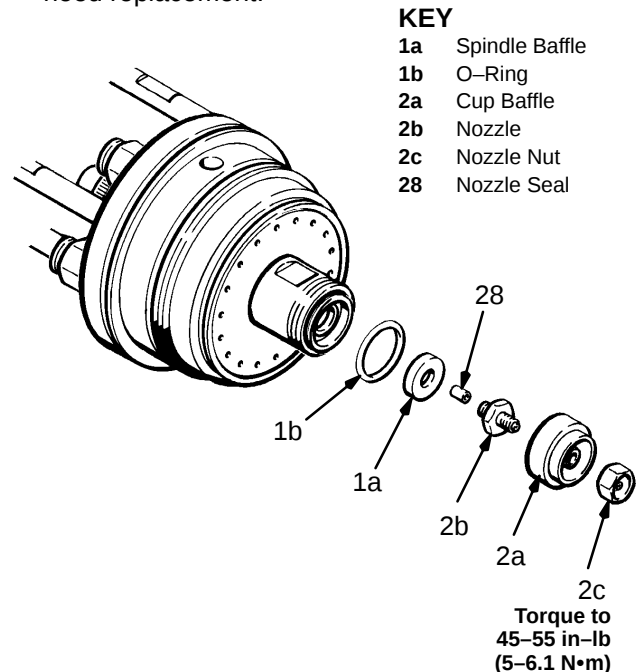

Fig 8
4. Soak the cup (A) in a compatible solvent. Clean it with a soft bristle brush dipped in solvent until all the paint is removed. Rinse the cup and dry it.
5. Remove the nut (2c) and baffle (2a). Remove the nozzle (2b) with the 1/2 in. hex driver (23b), supplied. Remove the o-ring (1b) with a dental pick. See Fig 8.